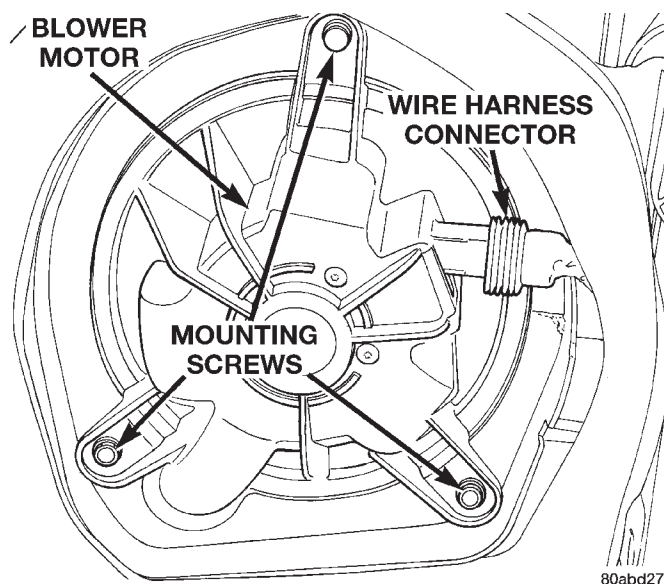

Fig. 36 Blower Motor Remove/Install
(3) Unplug the blower motor wire harness connector (Fig. 36).
(4) Remove the three screws that secure the blower motor and wheel assembly to the heater-A/C housing.
(5) Rotate and tilt the blower motor unit as needed for clearance to remove the blower motor and wheel from the heater-A/C housing.